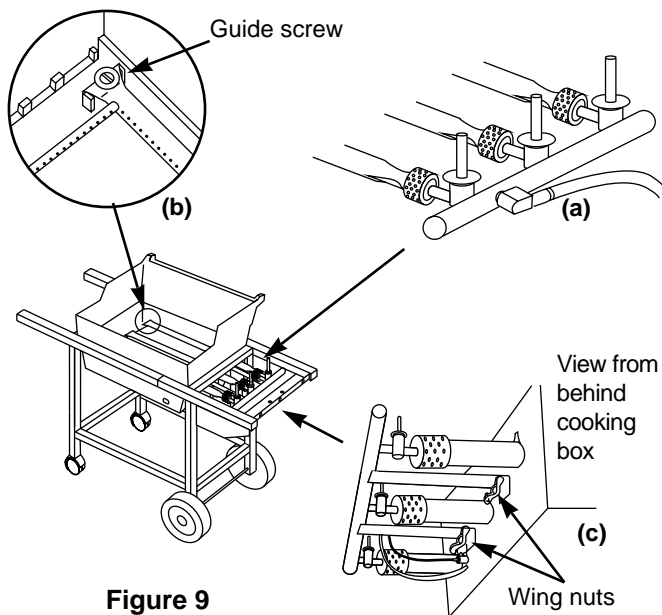

Figure 9
- a) Do the valves fit into the ends of the burners? Figure 9 (a).
- b) Are the ends of the burners under the washers at the left rear and left front of the cooking box? The screws are only guides. Do not tighten. Figure 9 (b).
- c) Are the wing nuts under the burner assembly hand tight? Do not tighten with pliers. Figure 9 (c).